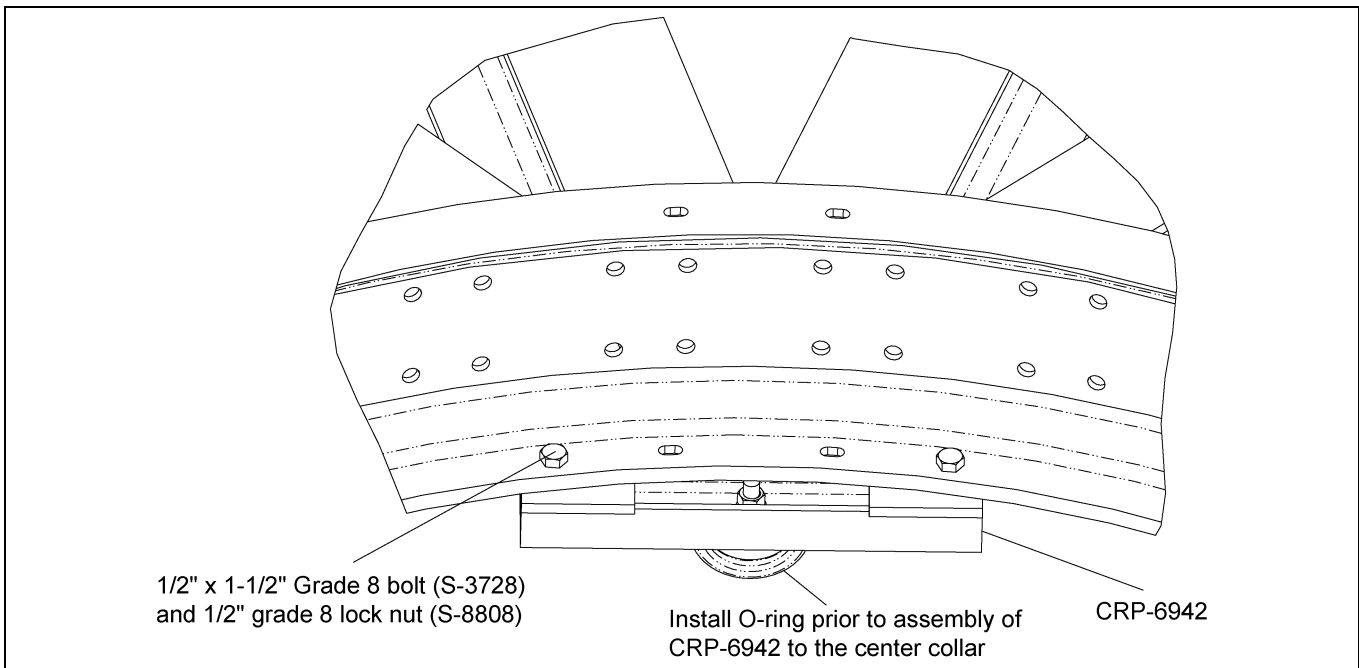

Figure 4E
6. Install CRP-6942 to the center collar using two (2) 1/2" x 1-1/2" grade 8 bolts (S-3728) and nuts (S-8808). For a reference, *See Figure 4E*.